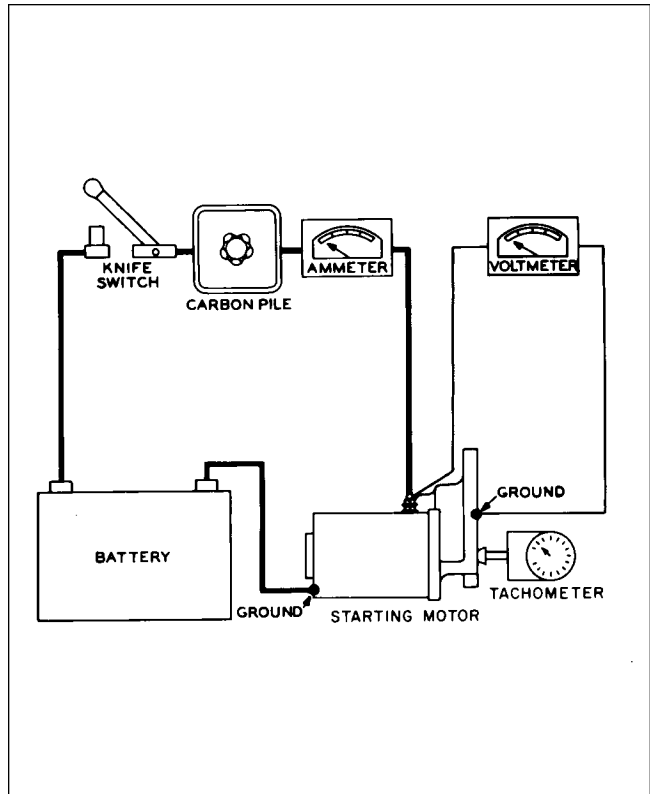

Figure 80-5. No Load Test Hookup
1. After the starting motor is reassembled, it should be tested to see that the no-load current at a certain voltage is within specifications as given in Chart 8002. To make this test, connect as shown in Figure 80-5. If current is too high, check the bearing alignment and end play to make sure there is no binding or interference. Two or three sharp raps on the frame with a rawhide hammer will often help to align the bearings and free the armature.